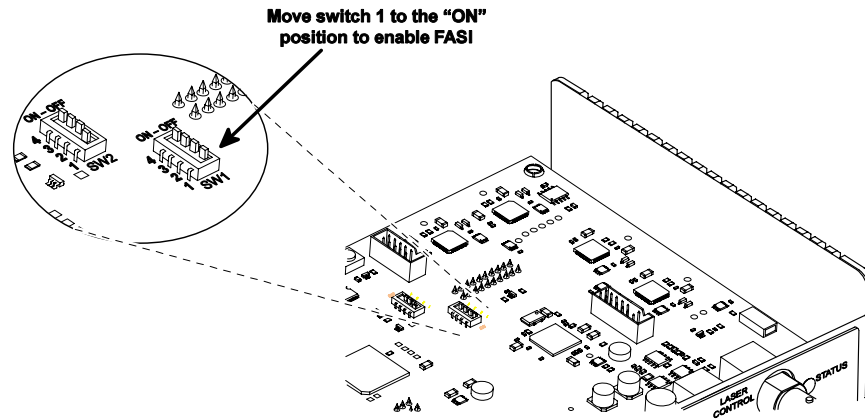

Figure 4 Flyer DIP switch locations
- 5 Locate the DIP switch bank labeled SW1 on the CPU board (see Figure 4) and move switch # 1 to the "ON" position.